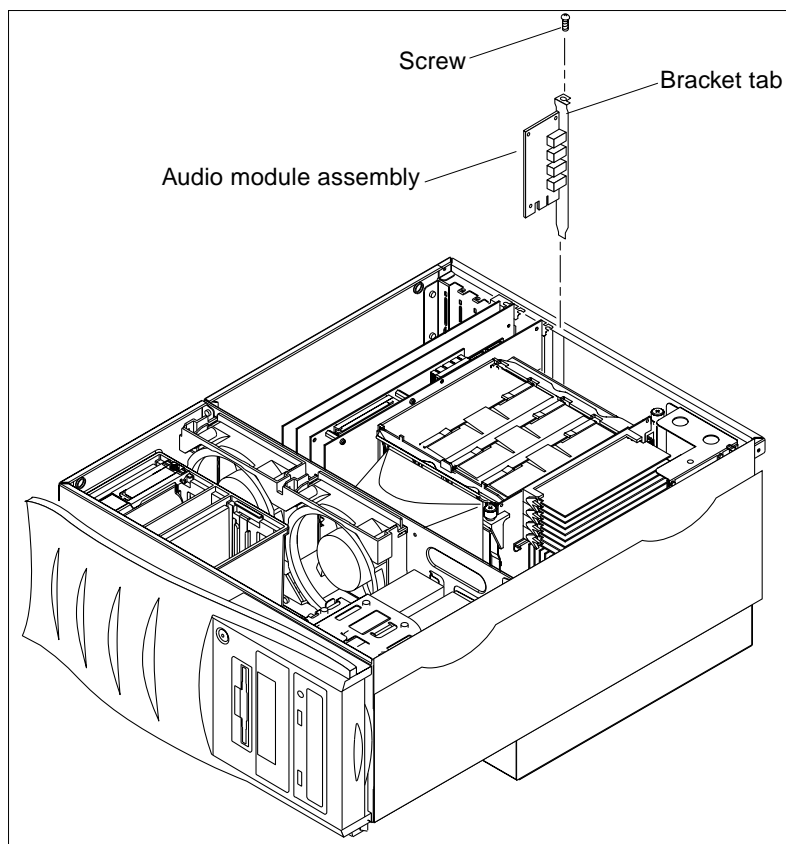

FIGURE 9-7 Removing and Replacing the Audio Module Assembly
**4. Remove the audio module assembly as follows (FIGURE 9-7):**
1. **Replace the audio module assembly as follows (FIGURE 9-7):**